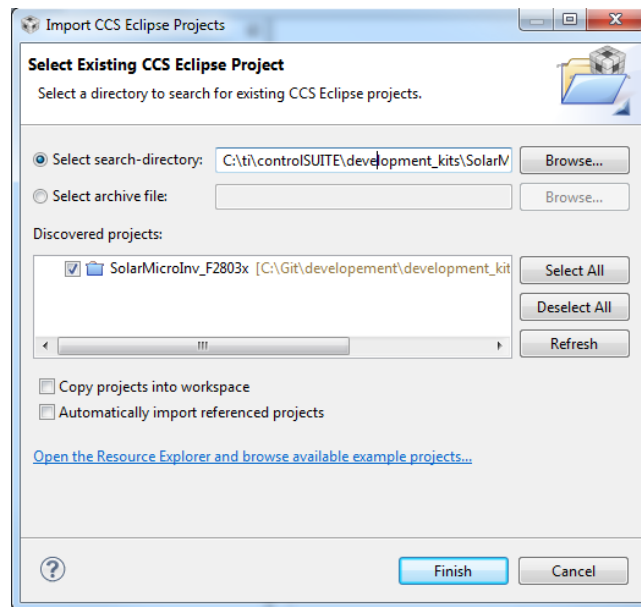

Figure 22 Adding F28035 PV inverter project to the workspace
8. Add all the solar micro inverter project into your current workspace by clicking “Project->Import Existing CCS/CCE Eclipse Project”, Figure 22.